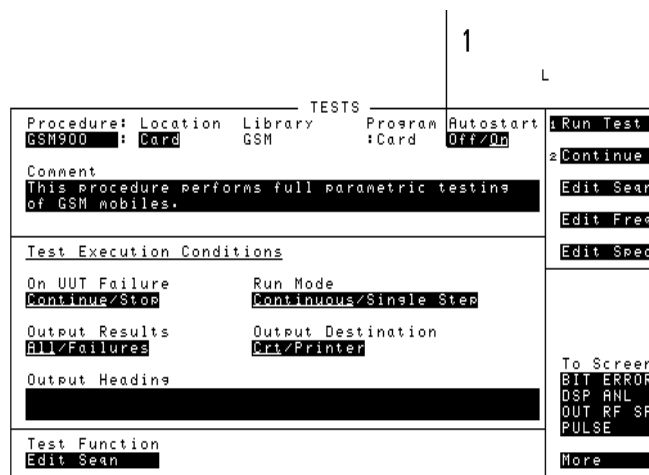

Figure 8-13 Tests Screen of the Agilent 8922M/S
Ensure the **Autostart** field toggle is set to **On** (see Figure 8-13 on page 8-32 (1)); this allows the Agilent 8922M/S to go straight to the Procedure Menu each time the Agilent 8922M/S is switched on, providing a Memory Card is inserted in the front panel of the Agilent 8922M/S.